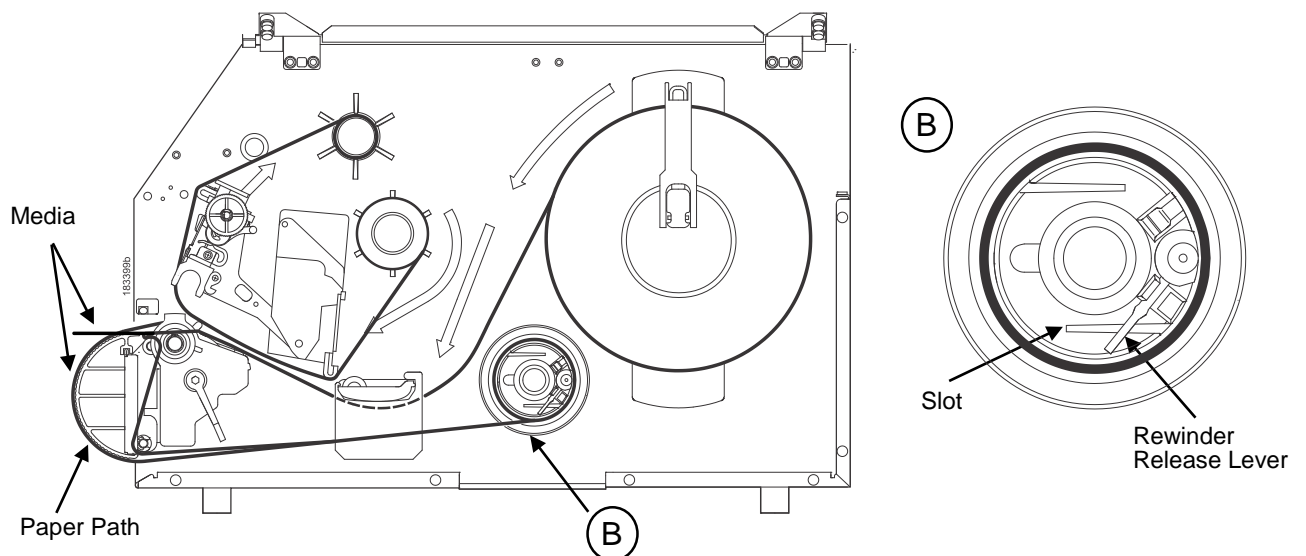

Figure 2 Loading Media
1. To load media, refer to *Figure 2* and follow “Loading Media” steps 1 through 9 on page 29.
8. Complete the media routing as shown in *Figure 2*.